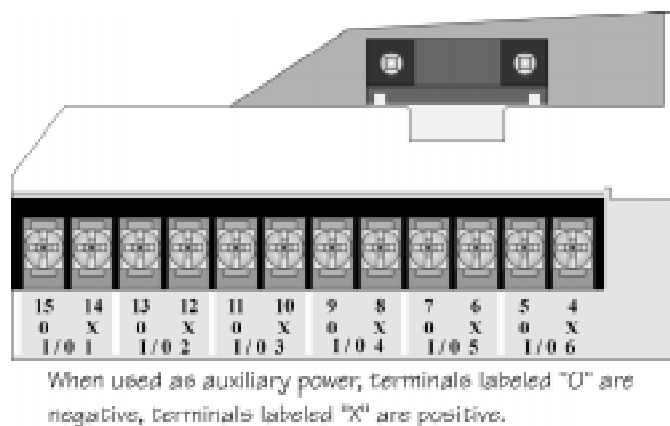

Figure 4-38 Flexput Circuit Location
1. Wire the Flexput circuit(s) that will be used for auxiliary power. See Figure 4-38 for location of Flexput circuits.